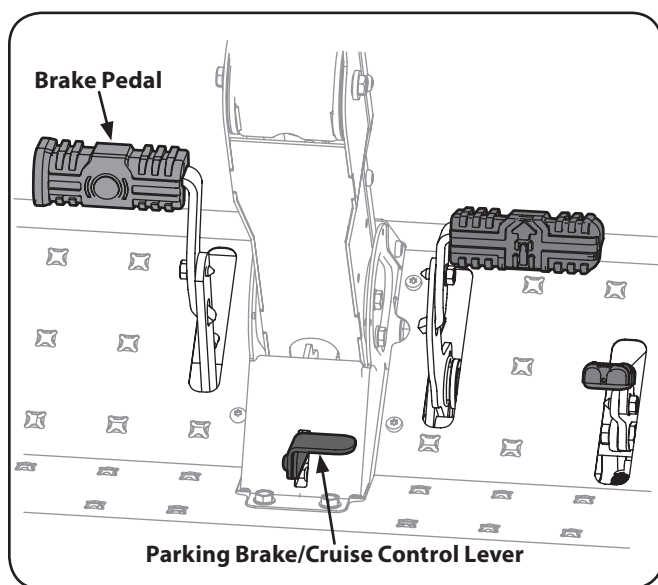

Figure 5-1
3. Engage the parking brake by pressing forward on the brake pedal (O), then press down on the parking break/cruise control lever and then release the brake pedal (O). Refer to Figure 5-1.